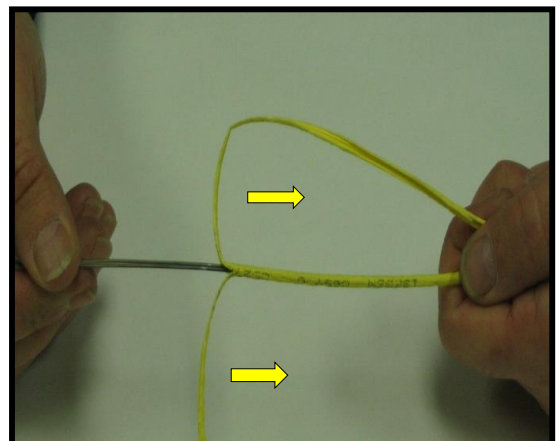

Figure 13
8.4 Use your fingers to pull the remaining foam back until it reaches point marked on outer jacket. If the PEF jacketing breaks during this step, continue to peel the PEF with your fingers. Then use scissors to carefully cut away the outer jacket **See Fig. 13.**